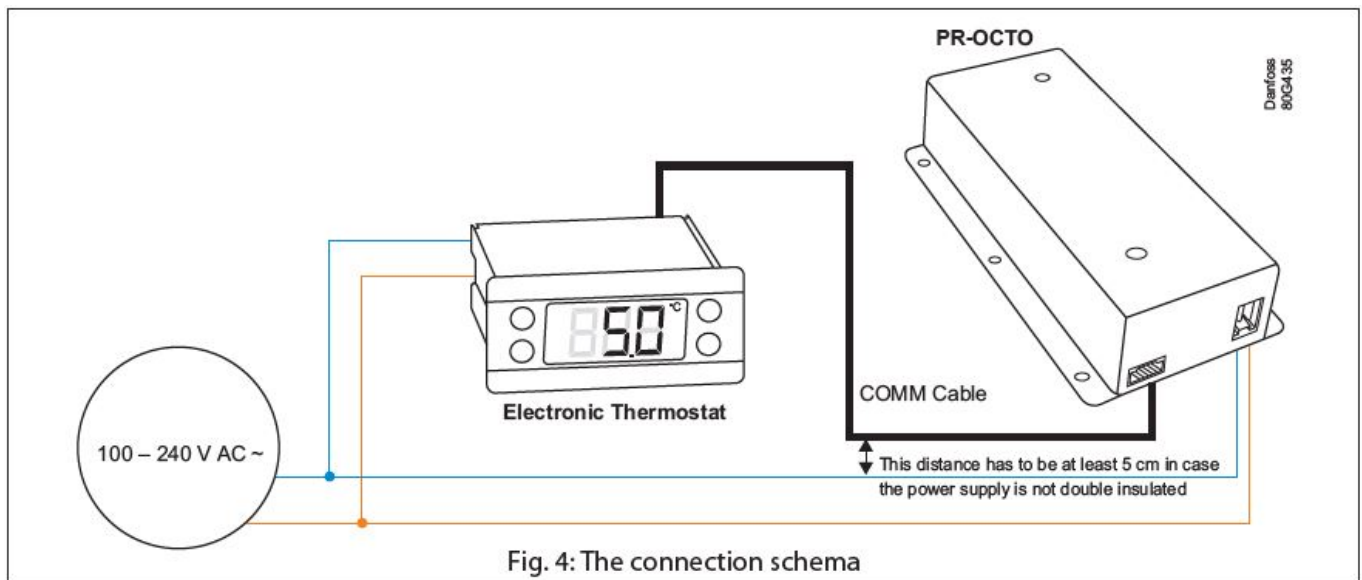

Fig. 4: The connection schema
- Step 3: Connect the power supply cable to the OCTO while such cable is not powered, as illustrated in Fig. 4.